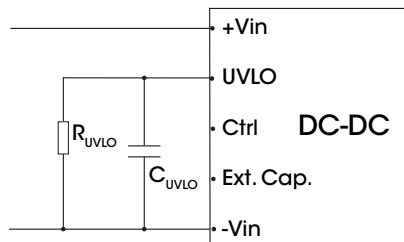

Figure 14. Recommended circuit for undervoltage-lockout adjustment
3. The UVLO pin can adjust the point of input under-voltage protection by the external resistance RUVLO, for the value of RUVLO, please refer to Fig. 14. If the pin is open circuit, the point of input under-voltage protection is 11 V.
3. The resistance  $R_{UVLO}$  sets the undervoltage protection point, for the value of  $R_{UVLO}$ , please refer to Fig. 14.